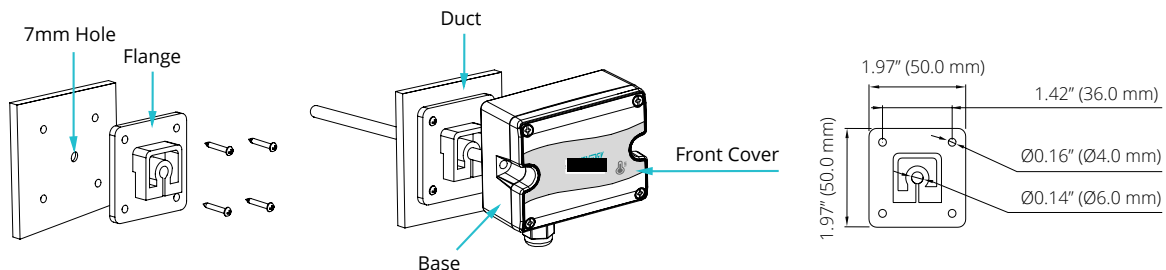

Figure 7 Duct Mount with Flange
4. Adjust the AcuTEMS DM probe to the required depth, and use the remaining screws to tighten the flange clamp to secure the probe. Refer to Figure 7 for details.